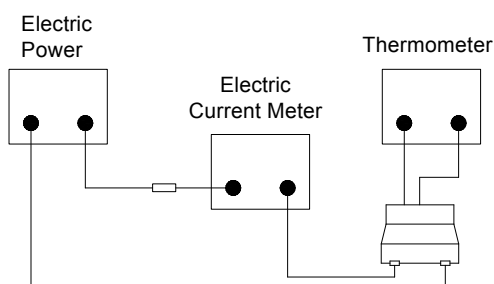

Fig.5.3.4-1
4. Definition of Temperature rise current: DC current that causes the temperature rise ( $\Delta T = 40^\circ\text{C}$ ) from  $20^\circ\text{C}$  ambient (see Fig. 5.3.4-2).